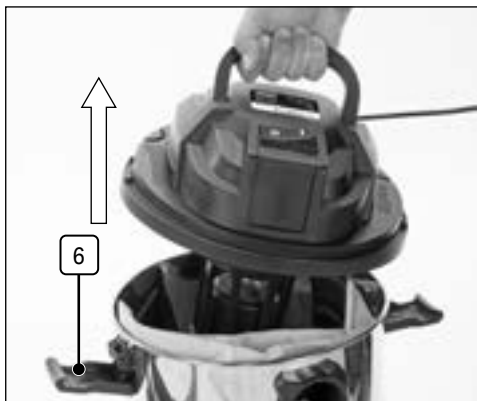

Fig. 2
1. Release the retaining clips **6** and lift off the motor housing. (Fig. 2).